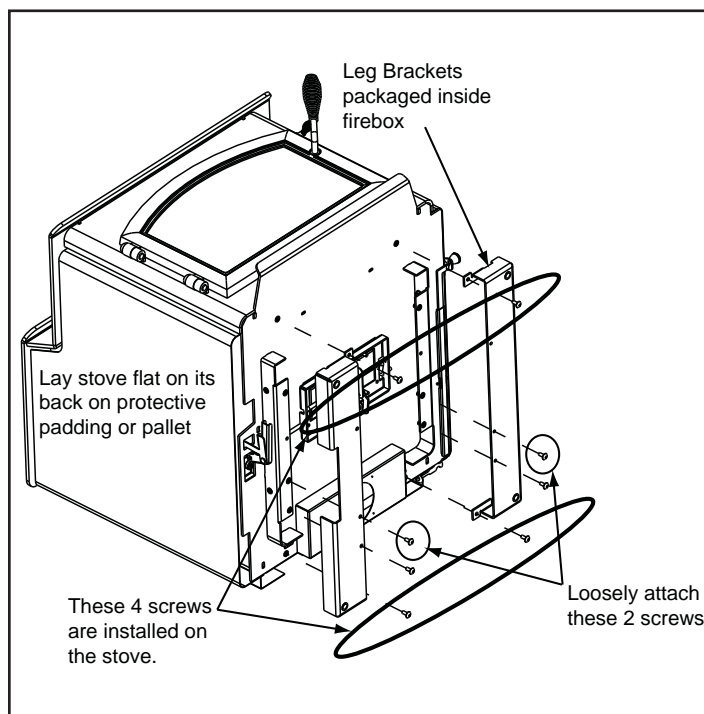

Figure 19.1
2. There are 4 screws that are installed on the stove. Remove the screws and use to secure the mounting brackets to the stove at the very top and bottom of the brackets. **Figure 19.1**.
3. There are 6 screws included with the leg kit. Attach 4 of the screws to the bracket at the bottom, leaving the 2 screws loose as identified in **Figure 19.1**.